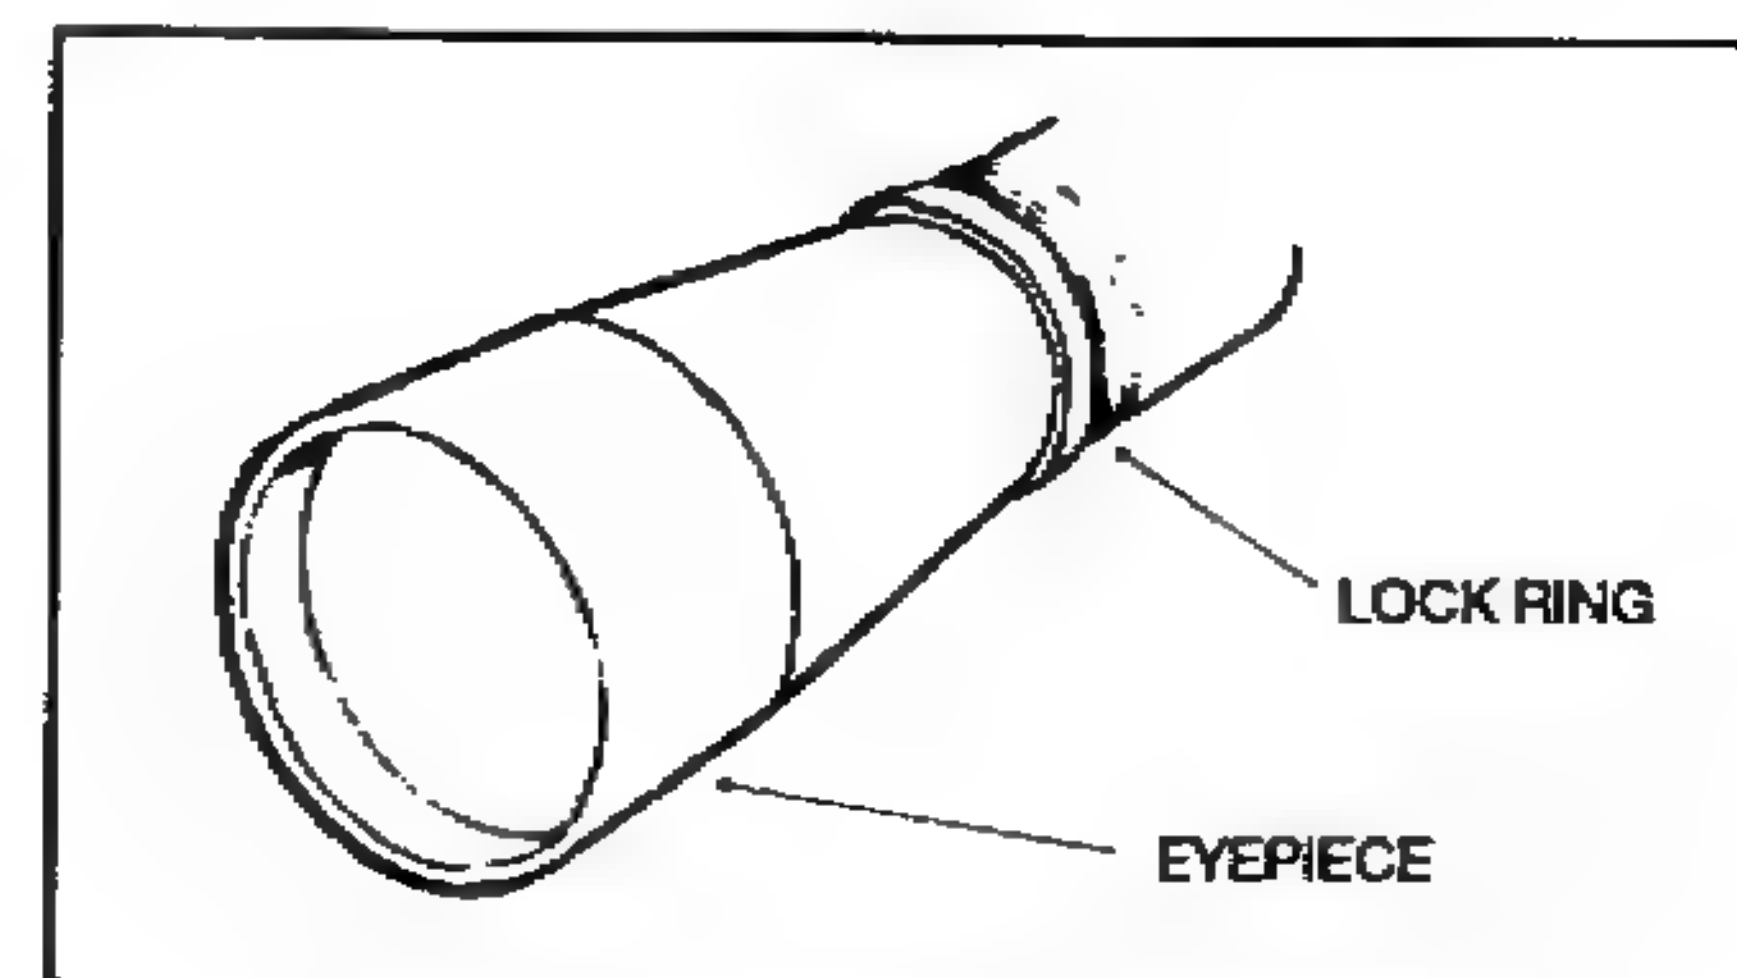

Figure 2-19. Eyepiece adjustment.
(4) **Eyepiece adjustment.** The eyepiece (Figure 2-19) is adjusted by turning it in or out of the barrel until the reticle appears crisp and clear. Focusing the eyepiece should be done after mounting the scope. The sniper grasps the eyepiece and backs it away from the lock ring. He does not attempt to loosen the lock ring first; it loosens automatically when he backs away from the eyepiece (no tools needed). The eyepiece is turned several turns to move it at least 1/8 inch. It takes this much change to achieve any measurable effect on the focus. The sniper looks through the scope at the sky or a blank wall and checks to see if the reticle appears sharp and crisp. He locks the lock ring after achieving reticle clarity.